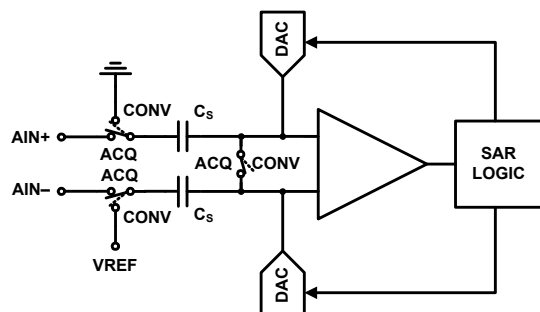

FIGURE 24. SAR ADC ARCHITECTURAL BLOCK DIAGRAM
The ISL26712/10/08 are based on a successive approximation register (SAR) architecture utilizing capacitive charge redistribution digital-to-analog converters (DACs). Figure 24 shows a simplified representation of the converter. During the acquisition phase (ACQ), the differential input is stored on the sampling capacitors (CS). The comparator is in a balanced state since the switch across its inputs is closed. The signal is fully acquired after t_{ACQ} has elapsed and the switches then transition to the conversion phase (CONV) so the stored voltage may be converted to digital format. The comparator will become unbalanced when the differential switch opens and the input switches transition (assuming that the stored voltage is not exactly at mid-scale). The comparator output reflects whether the stored voltage is above or below mid-scale, which sets the value of the MSB. The SAR logic then forces the capacitive DACs to adjust up or down by one quarter of full-scale by switching in binary weighted capacitors. Again, the comparator output reflects whether the stored voltage is above or below the new value, setting the value of the next lowest bit. This process repeats until all 12 bits have been resolved.